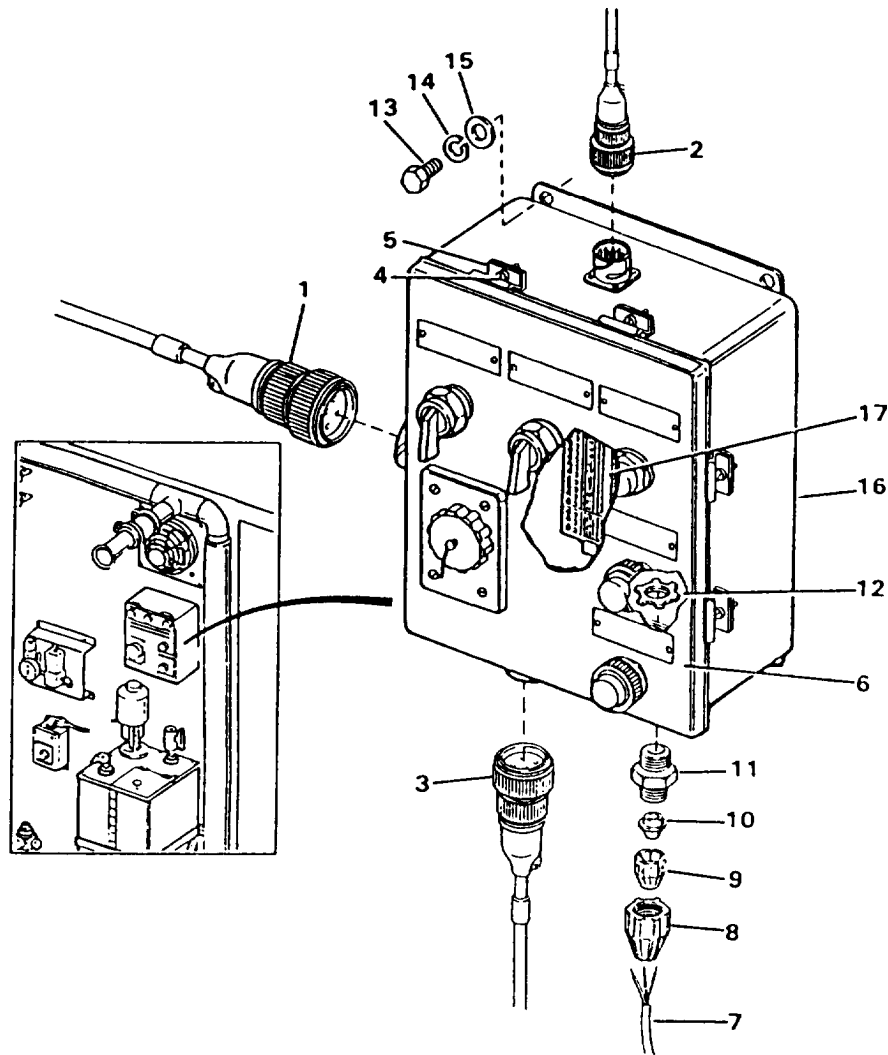
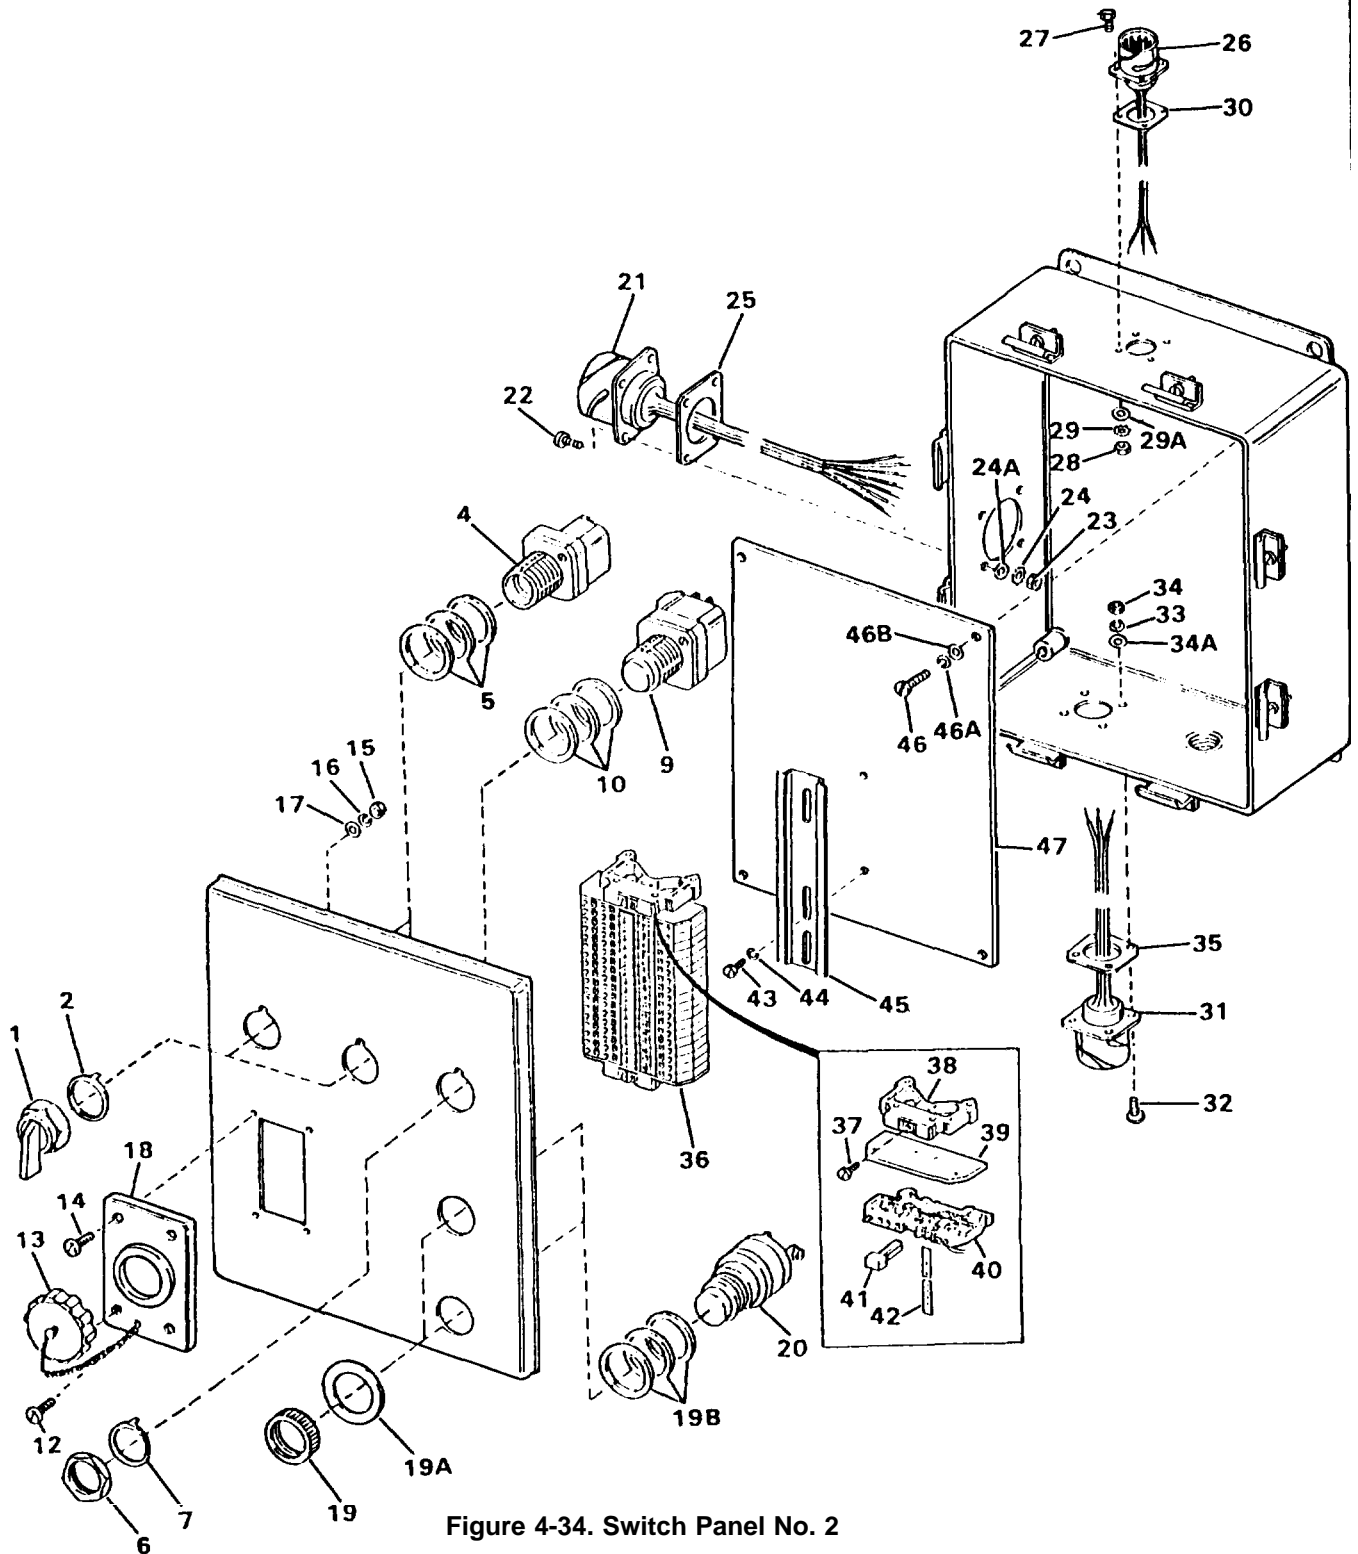

Figure 4-33. Switch Panel No. 2
Figure 4-34. Switch Panel No. 2
The internal components of the switch panel enclosure are shown on Figure 4-34. They are omitted in Figure 4-33 for clarity.
- a. Unscrew connectors (1, 2 and 3, Figure 4-33).
- b. Loosen eight capscrews (4) and cover clips (5) and open cover (6).
- c. Tag and remove wiring harness (7) from terminal strip (17) (para. 4-10).
- d. Unscrew connector nut (8). Retainer (9) and bushing (10) are now loose on wire (7).
- e. Remove wire (7) with items (8, 9 and 10).
- f. Remove cable adapter with sealing washer (11) by removing conduit nut (12).
- g. Remove fourcapscrews(13), lockwashers (14) and washers (15) and remove panel assembly (16).
- a. Tag and disconnect all wires to fan and mixer switches (4, Figure 4-34), light switch (9), two alarms (20) and receptacle (18) at the component end and at the terminal board (36).
- b. Remove handles with nuts (1), lock ring (2), switch (4), and spacers (5).
- c. Remove nut (6), lock ring (7), switch (9), three spacers (10) (11) DELETED.
- d. Remove capscrew (12) and dust cap (13).
- e. Remove four capscrews (14), nuts (15), lockwashers (16), washers (17) and remove receptacle (18).
- f. Remove two nuts (19), two washers (19A), six spacers (19B) and two alarms (20).
- g. Remove wiring harness (21) as follows:
- (1) Tag and disconnect wires to terminal board (36).
- (2) Remove four capscrews (22), nuts (23), lockwashers (24) and washers (24A).
- a. Install subpanel (47, Figure 4-34). Secure with capscrews (46), lockwashers (46A) and washers (46 B).
- b. Install rail (45) and secure with lockwasher (44) and capscrew (43).
- c. Refer to para. 4-10 and install terminal strips. Install end plates, retainers (38) on rail (45) and secure with capscrew (37). Install jumpers (41) as tagged during removal and replace markers (42) if removed.
- d. Install wiring harness (31) and gasket (35) and secure with capscrews (32), nuts (33) and washers (34) and washers (34A). Connect wires to terminal board (36) in accordance with markings.
- e. Install wiring harness (26) and gasket (30) and secure with capscrews (27), nuts (28) and lockwashers (29) and washers (29A). Connect wires to terminal board (36) in accordance with markings.
- f. Install wiring harness (21) and gasket (25) and secure with capscrews (22), nuts (23) and lockwashers (24) and washers (24A). Connect wires to terminal board (36) in accordance with markings.
- g. Install two alarms (20) and secure with two ring nuts (19), two washers (19A) and six spacers(19B),
- h. Install receptacle(18) and secure withcapscrews(14), nuts (15), lockwashers(16) and washers (17). Install dust cap (13) and secure with capscrew ( 12).
- i. Install spacers (10) on switch (9), and secure the switch with lock ring (7) and nut (6). (11) DELETED.
- j. Install spacers (10) on switch (9) and secure switch with lock ring (2) and handle (1).
- k. Connect wires to fan and mixer switch (4), light switch (9), two alarms (20) and receptacle (18) in accordance with markings made during disassembly. Spray or brush varnish on the wire connections.
- l. Install the other ends of the wires to the terminal strip (36) as tagged during disassembly (para. 4-10).
- a. Refer to Figure 4-33 and install switch panel No. 2 as follows: